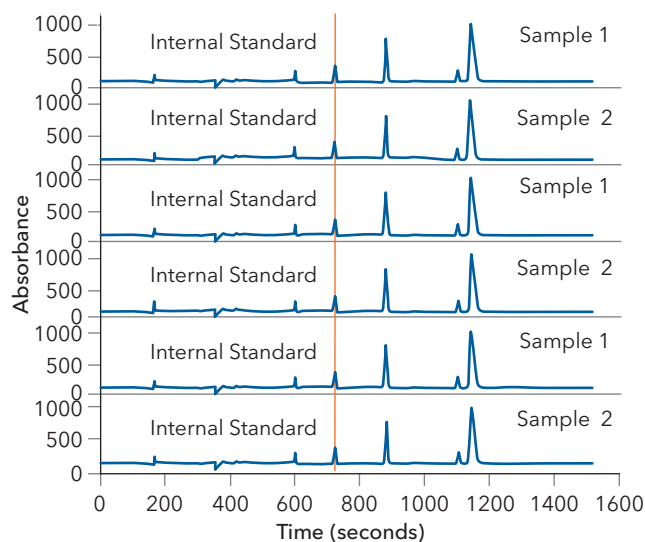

FIGURE 3. Reproducible peak profile in repeated injections from two duplicate reduced IgG samples run on CE-SDS PLUS.
1. For replicate injections of the same sample, compare the peak profile across injections. Your peak profiles should be reproducible as shown in FIGURE 3 (data shown for CE-SDS PLUS).